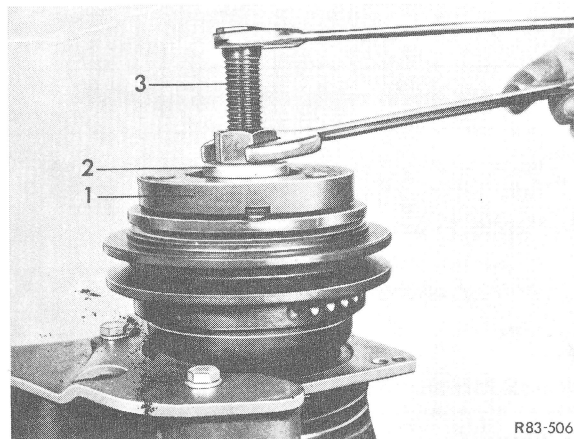

Figure 4
9 Place spacer (2) on spring plate (1), insert installer (3) through spacer (2) and screw installer (3) onto shaft end (Fig. 4).